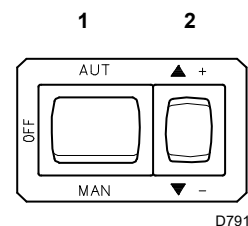
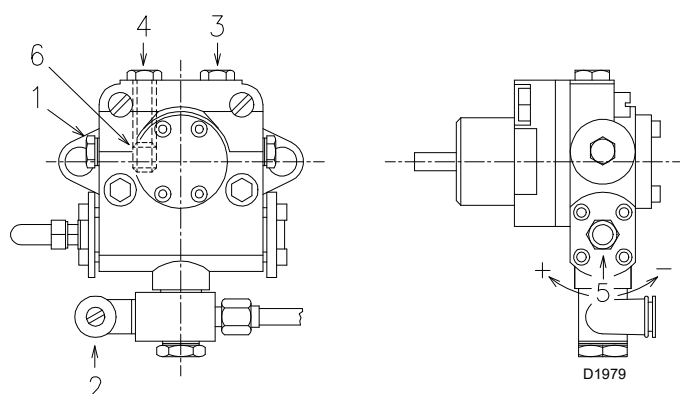

Fig. 23
Fig. 22
- In order for self-priming to take place, the screw 3)(Fig. 22) of the pump must be loosened in order to bleed off the air contained in the suction line.
- Start the burner by closing the control devices and with the switch 1)(Fig. 23) in "MAN" position.
- The pump can be considered to be primed when the light oil starts coming out of the screw 3). Stop the burner: set switch 1)(Fig. 23) to "OFF" and tighten the screw 3)(Fig. 22).